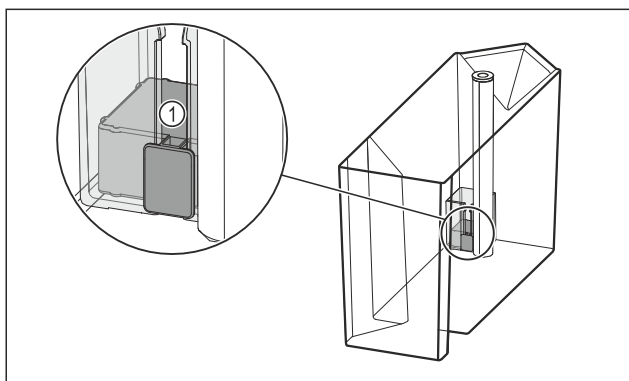

Fig. 98
- Check whether the swimmer Fig. 98 (1) is stuck.